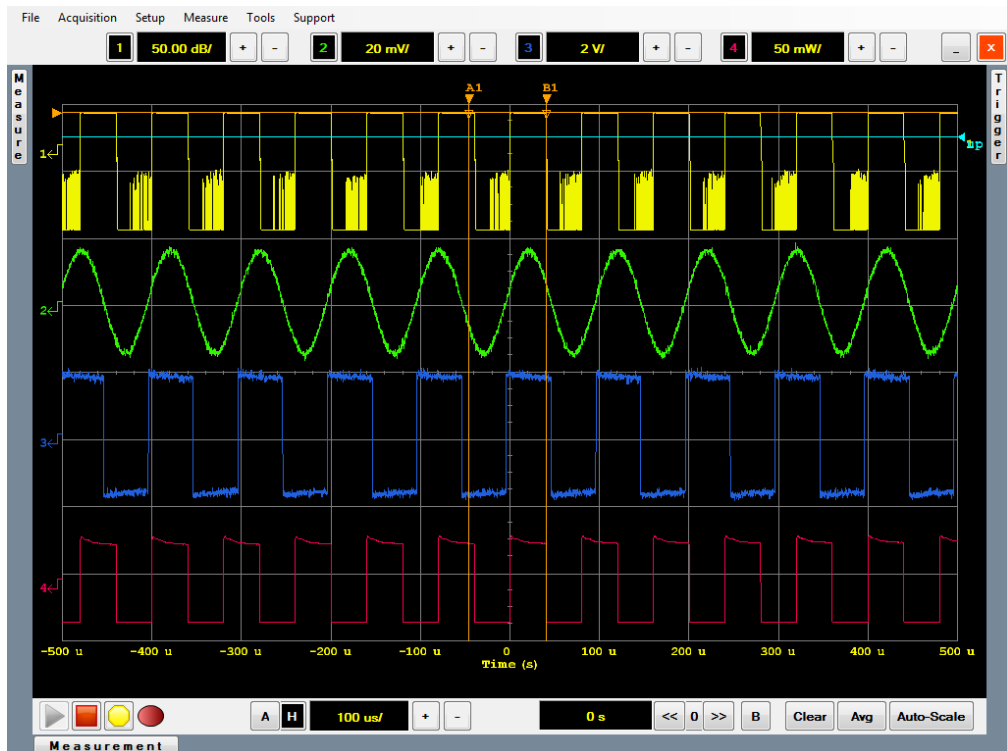

Figure 2-2 Display outlook with hidden menus and multi-purpose pane.
- 2 The display outlook with the hidden menus and multi-purpose pane is as shown in Figure 2-2.